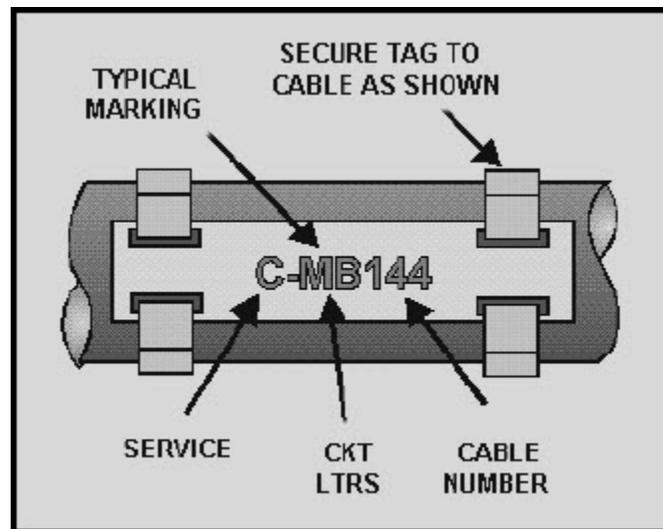

Figure 3-1 Cable tag
Metal tags embossed with the cable markings are used to identify all permanently installed shipboard electrical cables. These cable tags (figure 3-1) are placed on cables close to each point of connection, and on both sides of decks, bulkheads, and other barriers to identify the cables. The markings on the cable tags identify cables for maintenance and circuit repairs. The tags show (1) the SERVICE LETTER, which identifies a particular electrical system, (2) the CIRCUIT LETTER or LETTERS, which identify a specific circuit within a particular system, and (3) the CABLE NUMBER, which identifies an individual cable in a specific circuit.
In figure 3-1, note that the cable is marked "C-MB144." The letter C denotes the service; in this case, the IC (interior communication) system. The letters MB denote the circuit; in this case, the engine-order circuit. The number 144 denotes cable number 144 of the MB circuit.